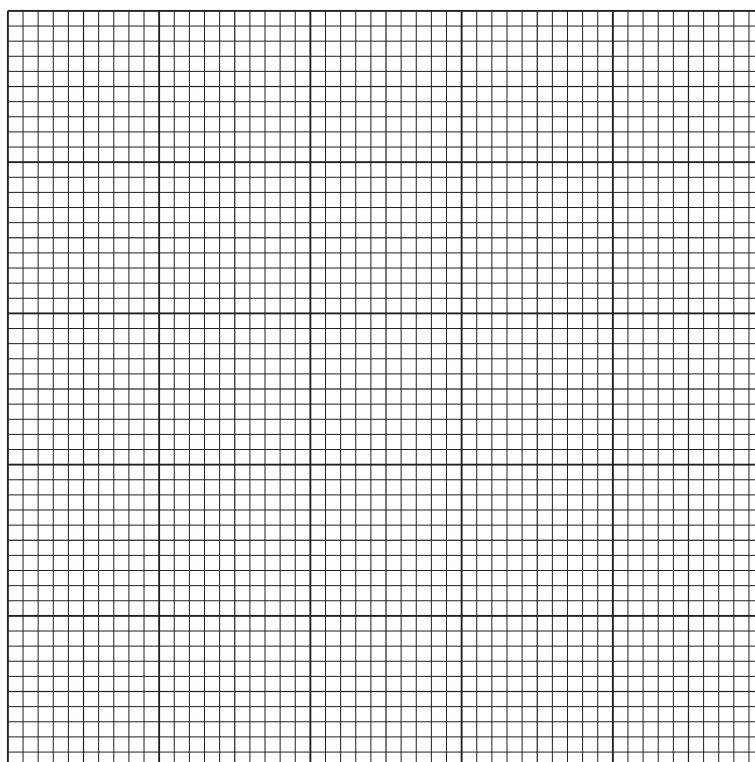

Fig. 1.3
- (i) Plot a graph of the data in Table 1.2 on the grid in Fig. 1.3.
- (ii) Use your graph in Fig. 1.3 to determine the rate of reaction when the temperature is 37.5°C .